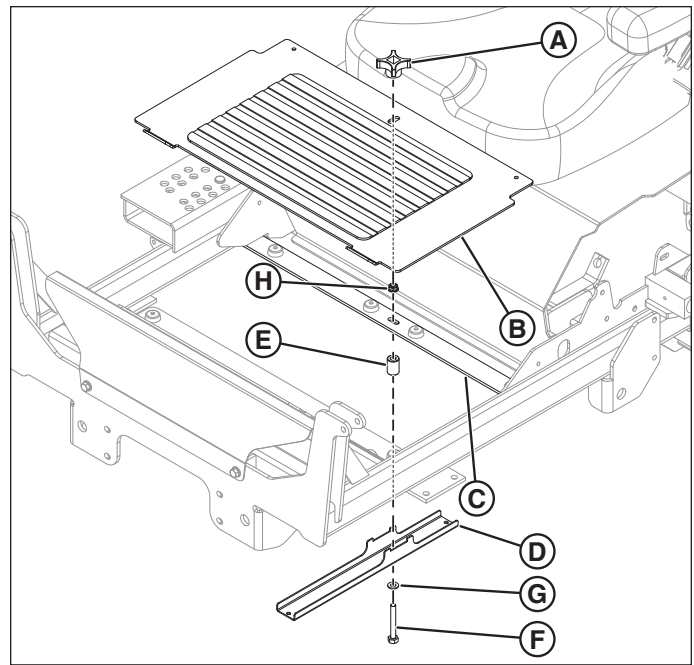
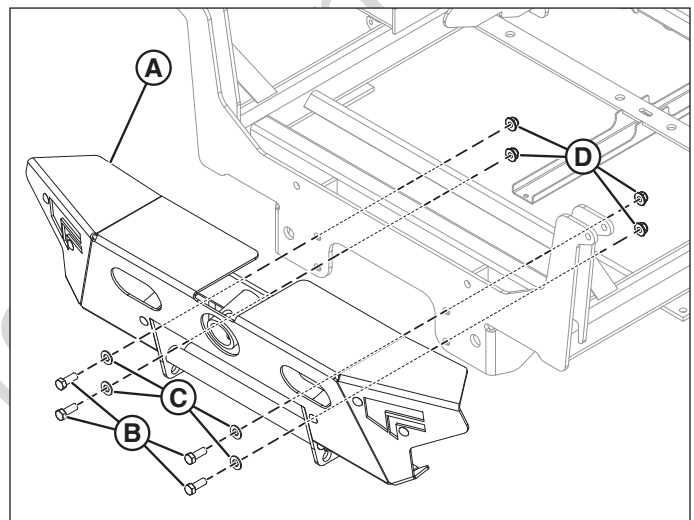

Figure 2. Installing the Wire Carrier
Figure 3. Install the Front Bumper Assembly
5. Remove the knob (A, Figure 2) and floor plate (B) from the machine.
6. Remove the nut and carriage bolt from the frame cross rail (C).
7. Install the wire carrier (D) and 1.06" long spacer (E) beneath the frame cross rail using a 5/16-18 X 2-1/2" fully threaded bolt (F), 5/16" washer (G), and a new 5/16-18 nylock flange nut (H).
8. Install the front bumper assembly (A, Figure 3) onto the unit using four (4) 3/8-16 X 1" bolts (B), 3/8 washers (C), and 3/8-16 nylock flange nuts (D).